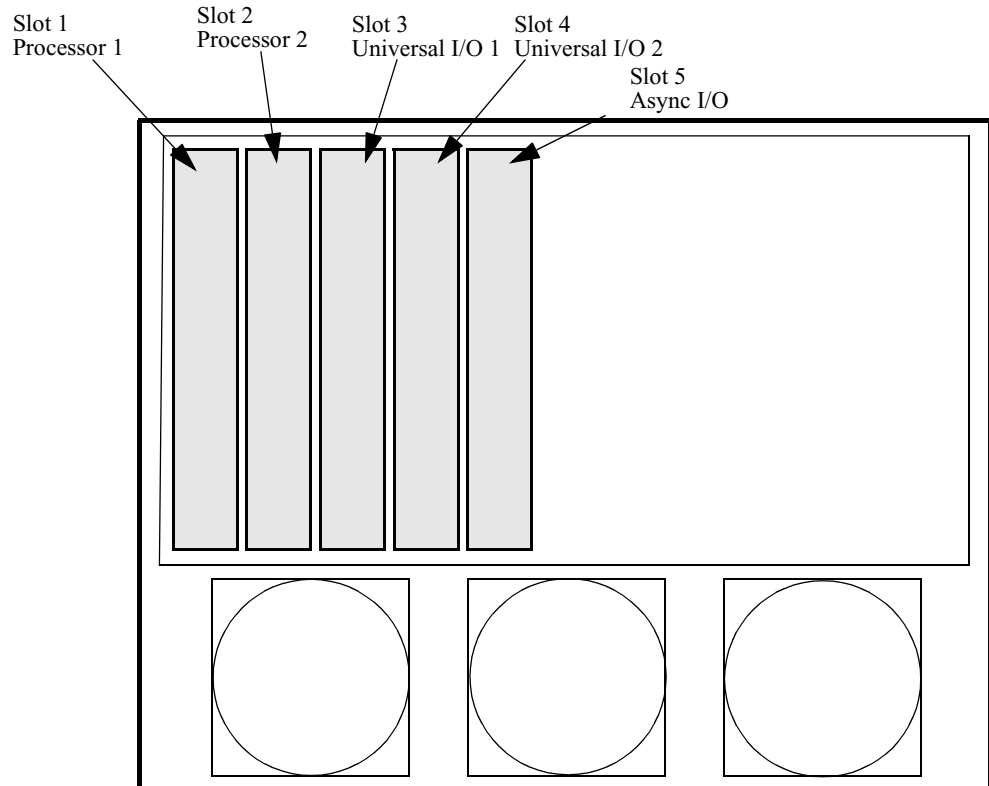

Figure 2-7. Multiprocessor Node
Figure 2-7 shows a multiprocessor node where an enclosure is configured for two 6507^{PLUS} or two 6525^{PLUS} cards.
- Processor 1 handles the I/O interrupts from its own six on-board ports. The processor card in the lowest-numbered slot is the master. In Figure 2-7, Processor 1 is the master processor.